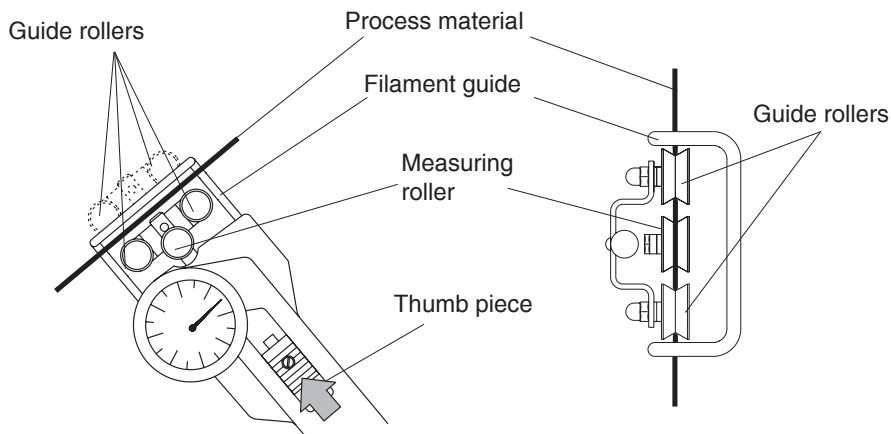

fig. 3.4
- Keeping the outer rollers extended, bring the instrument behind or under the filament and move it so that the filament guide bars contact the process material (see fig. 3.4).